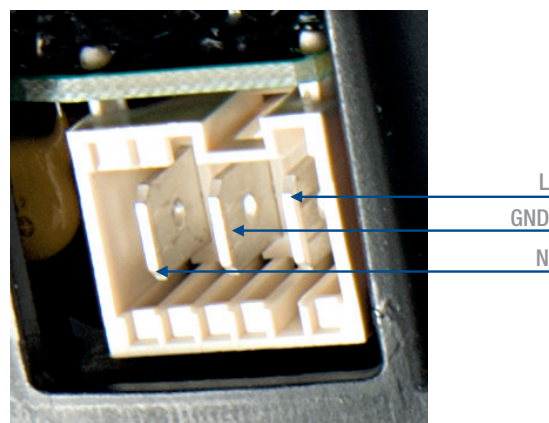

Figure 2a - fan power supply connector 3644 03 K01 LUMBERG RAST-5
- Fan power supply _____ 3644 03 K01 LUMBERG RAST-5 (230 V version) _____ Fig. 2a